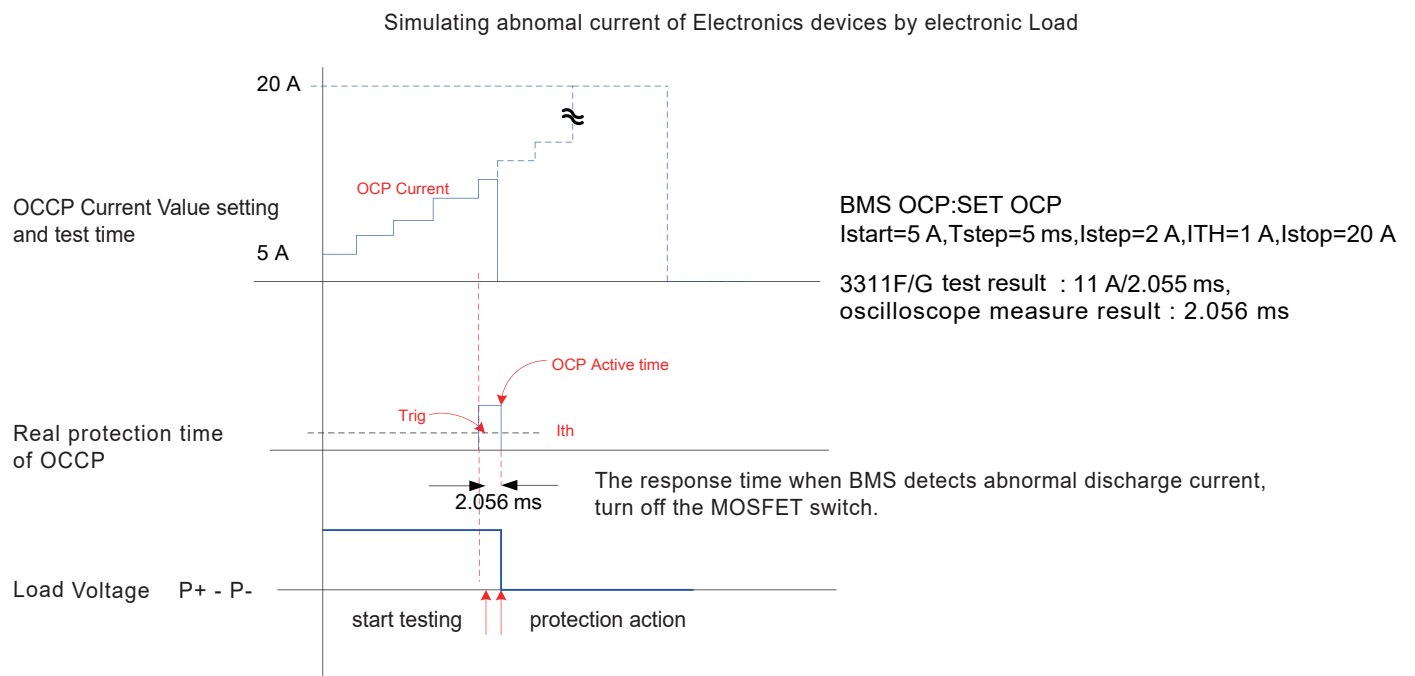

Figure 13 3311F/G with BMS for over current discharge test procedure (continuous STEP pulse)
4.2 Continuous step Pulse : The actual over current protection point when scanning discharge OCPD (Over Current Discharge Protection) Test Procedure, Figure 13 is 3311F/G continuous pulse current BMS over discharge current test procedure, and FIG. 14 is the actual test Results. In the left is the oscilloscope current waveform of BMS over discharge current protection, in the right is the actual test of 3311F/G with BMS for over discharge current value and the response time.